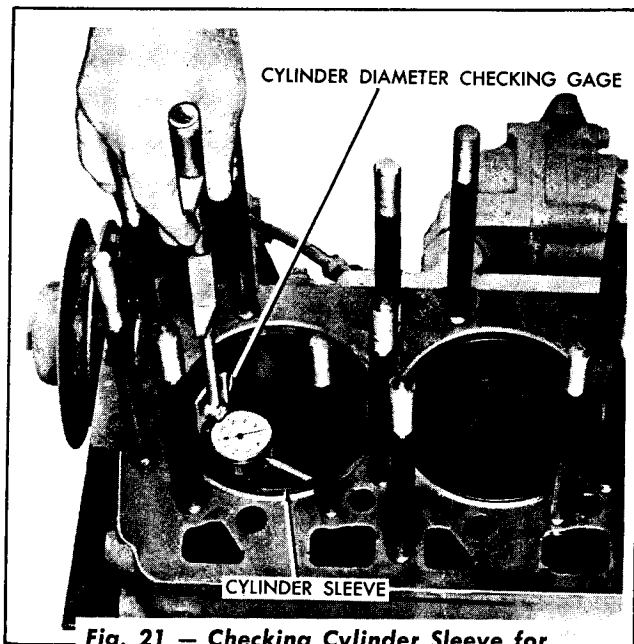

Fig. 21 — Checking Cylinder Sleeve for Roundness
2. Check the cylinder sleeves for roundness by means of a gauge similar to the one shown in Fig. 21. Using an inside micrometer, measure the cylinder sleeve for taper and wear. The inside diameter of a new cylinder sleeve is 4.4370" to 4.4385". The out of round and taper of sleeve should not exceed this maximum tolerance.